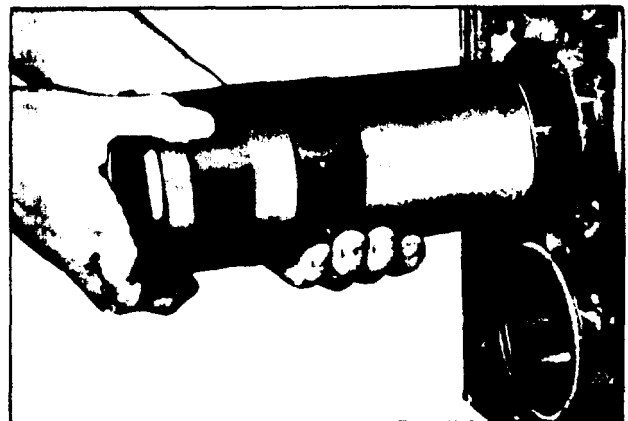

Fig. 10 - installing Piston, Rod and Liner Assembly in Cylinder Block
6. Position the piston, rod and liner assembly in line with the block bore (Fig. 10) so the identification number on the rod is facing